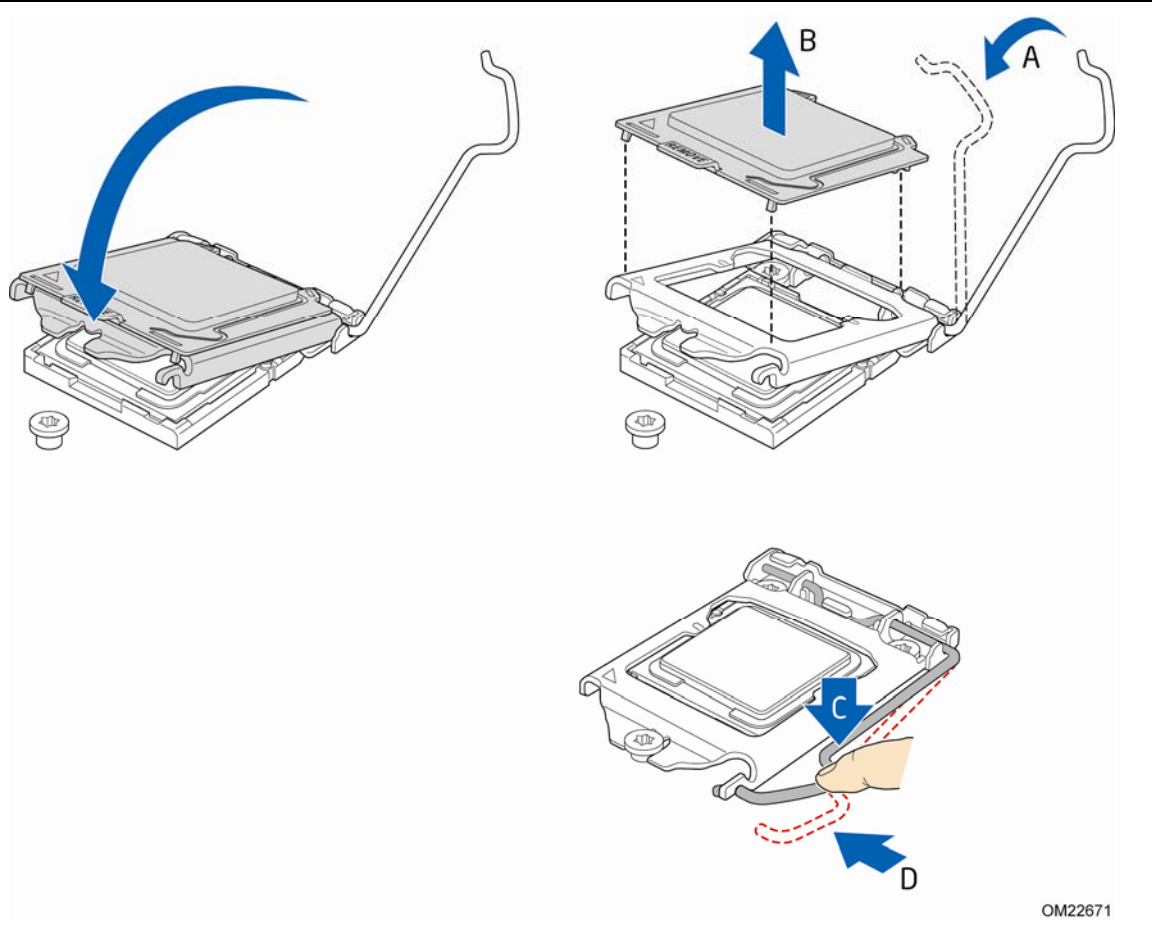

Figure 10. Secure the Load Plate in Place
- Carefully lower the socket lever (Figure 10, A) while making sure that the front edge of the load plate slides under the shoulder screw cap as the lever is lowered. Latch the socket lever under the load plate tab (Figure 10, C, D). The socket cover (Figure 10, B) will pop off as shown.